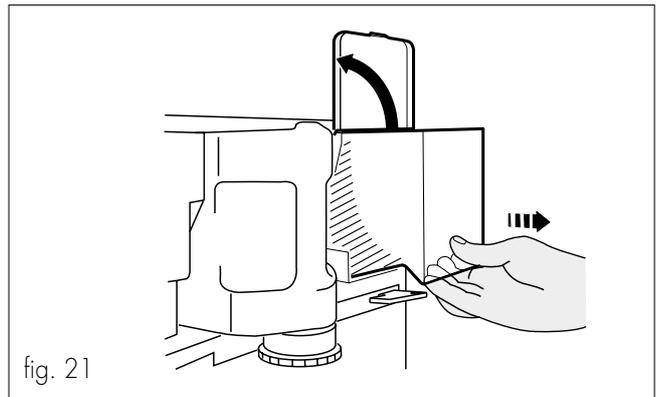

fig. 21
- Pull the coffee container outward, lift the cover and fill the container with coffee beans (fig. 21).